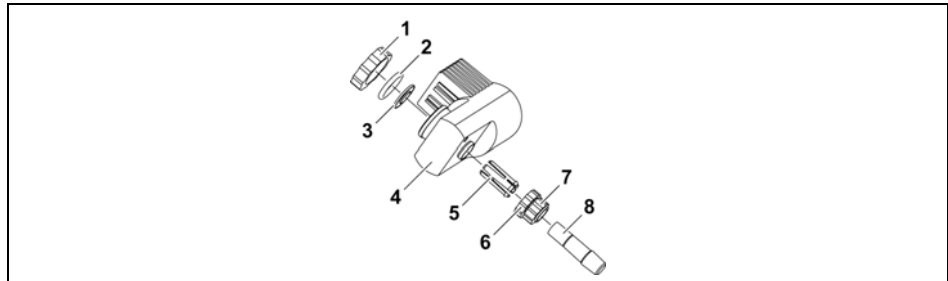

Fig. 4-5: *Installing the vapour tube*
4. Unscrew the vapour tube screw coupling (Fig. 4-5 (6, 7)) from the drive.
5. Remove collet (Fig. 4-5 (5)).
6. Slide the vapour tube screw coupling (Fig. 4-5 (6, 7)) and collet (Fig. 4-5 (5)) onto the vapour tube with the ring facing forward (Fig. 4-5 (8)). Ensure that the ring clicks into place in the groove of the vapour tube (Fig. 4-5 (8)).
7. Insert the vapour tube (Fig. 4-5 (8)) and preassembled parts into the drive.
9. Hand-tighten the vapour tube (Fig. 4-5 (8)) in place at the drive button (Fig. 4-5 (4)) with the vapour tube screw coupling (Fig. 4-5 (6, 7)).